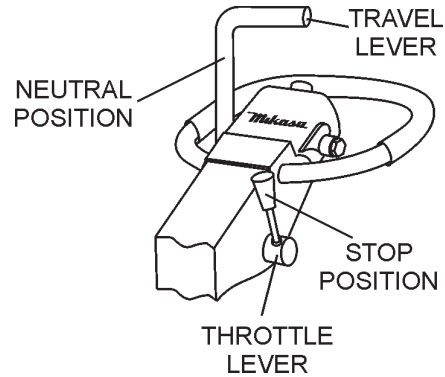

Figure 23. Throttle Lever (Stop)
- Place the throttle lever in the **STOP** position (Figure 23) to stop the engine.